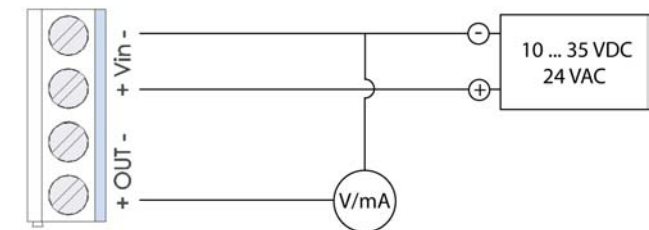

Figure 3 Wiring for 3-wire Output
- **3-wire output:** see Figure 3. Provide the required supply voltage according to the output type: